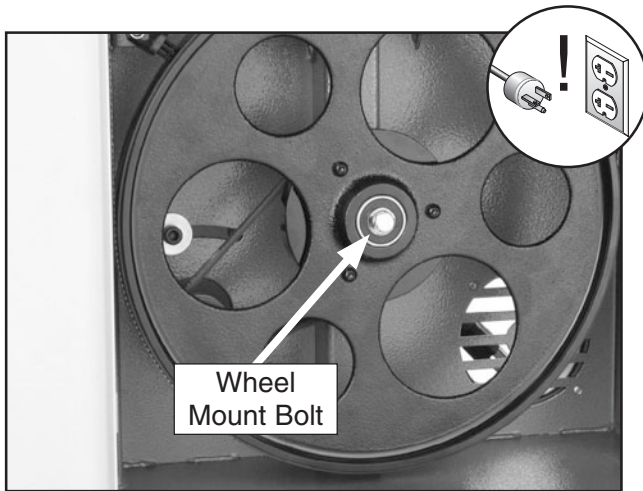

Figure 86. Example of wheel mount bolt.
6. Unthread the wheel mount bolt shown in **Figure 86** and slide the lower wheel off of the bearing shaft.